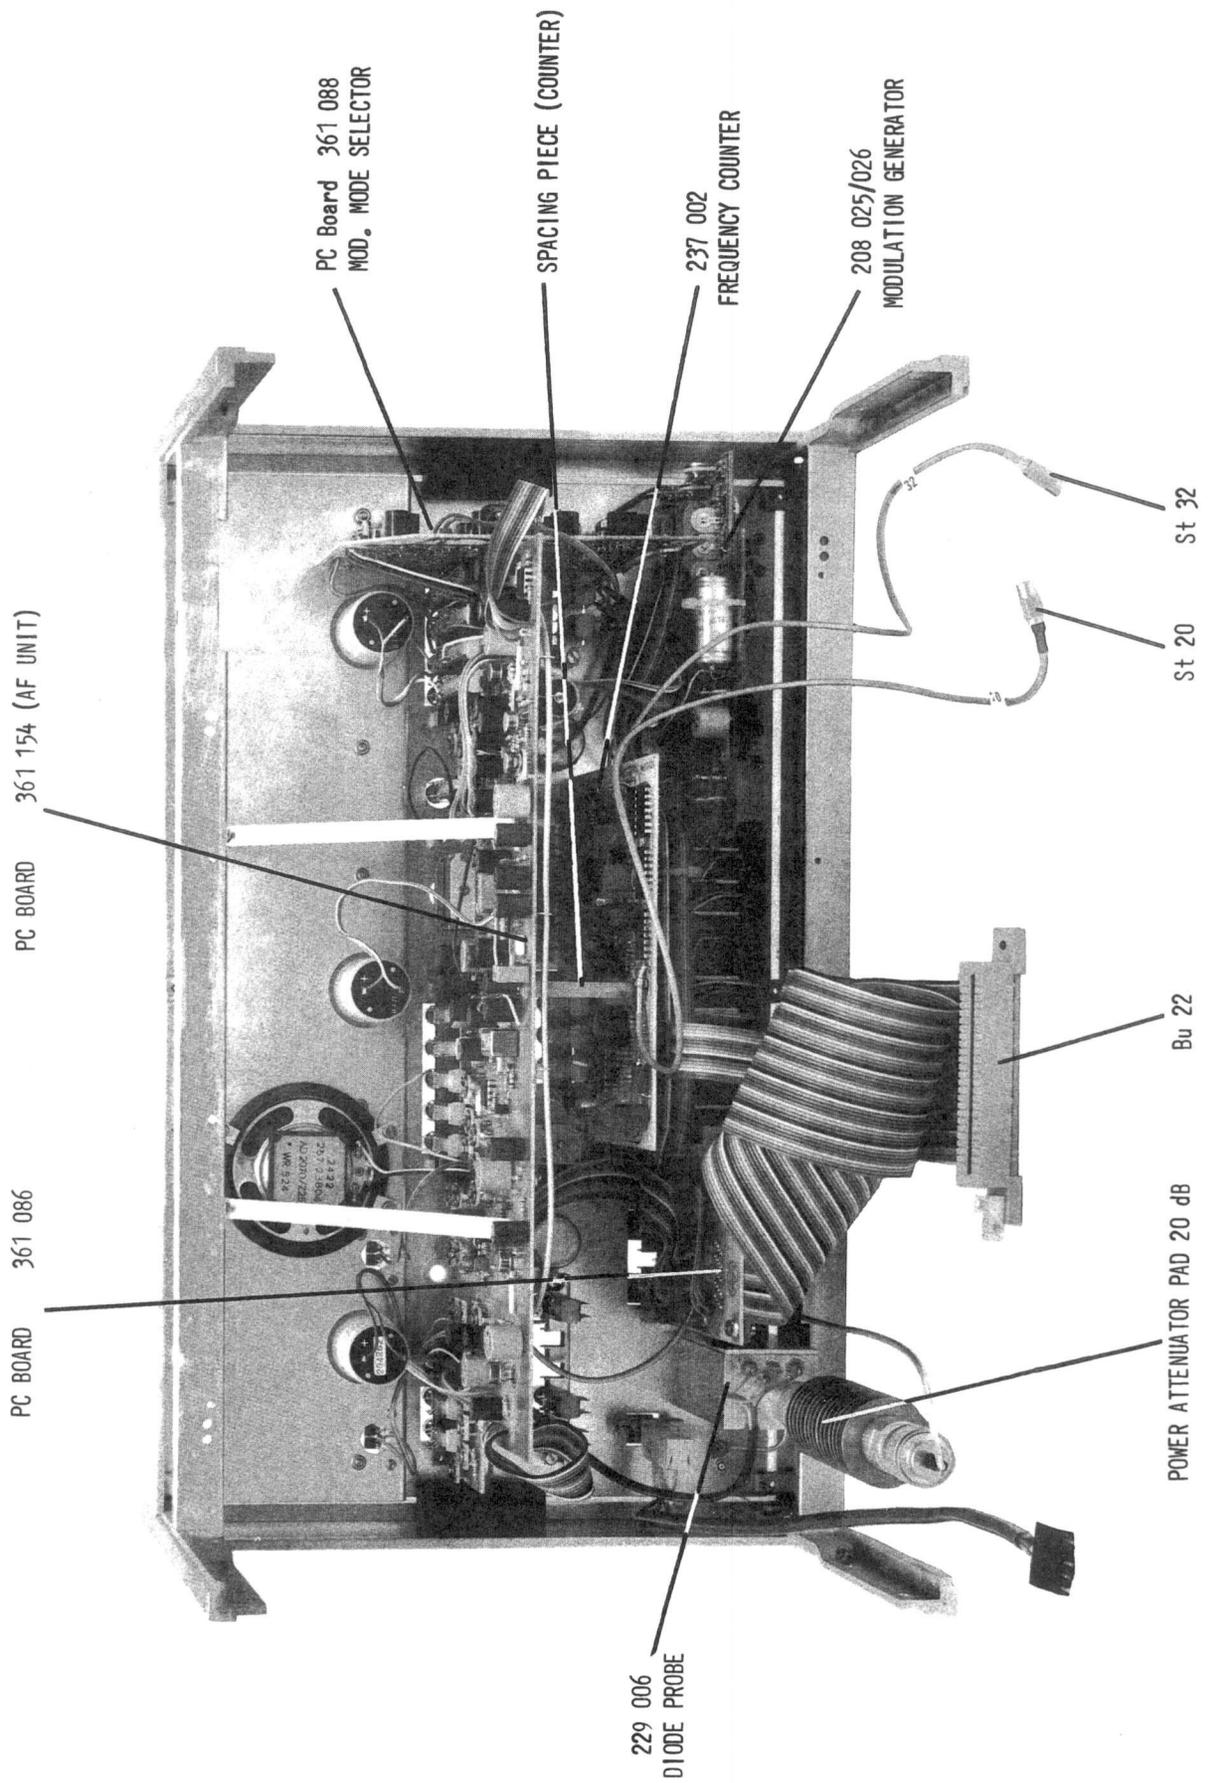

FIG. 4: CONTROL AND DISPLAY UNIT
3. The Control and Display Unit 209 021 contains the following assemblies apart from the control and display components (see fig. 4):
- ② Screw off adjustment knob for step attenuator
- 3) Loosen jack 22 (see fig. 4) after having removed the lock screw on the jack.
- 4) Disconnect plugs St 20 and St 32 (fig. 4)
4. Modulation Generator 208 025/026 (fig. 4)
5. Should the Frequency Counter 237 002 (fig. 4) need to be removed for instrument repairs, front panel must also be removed (see instructions for 4. above).